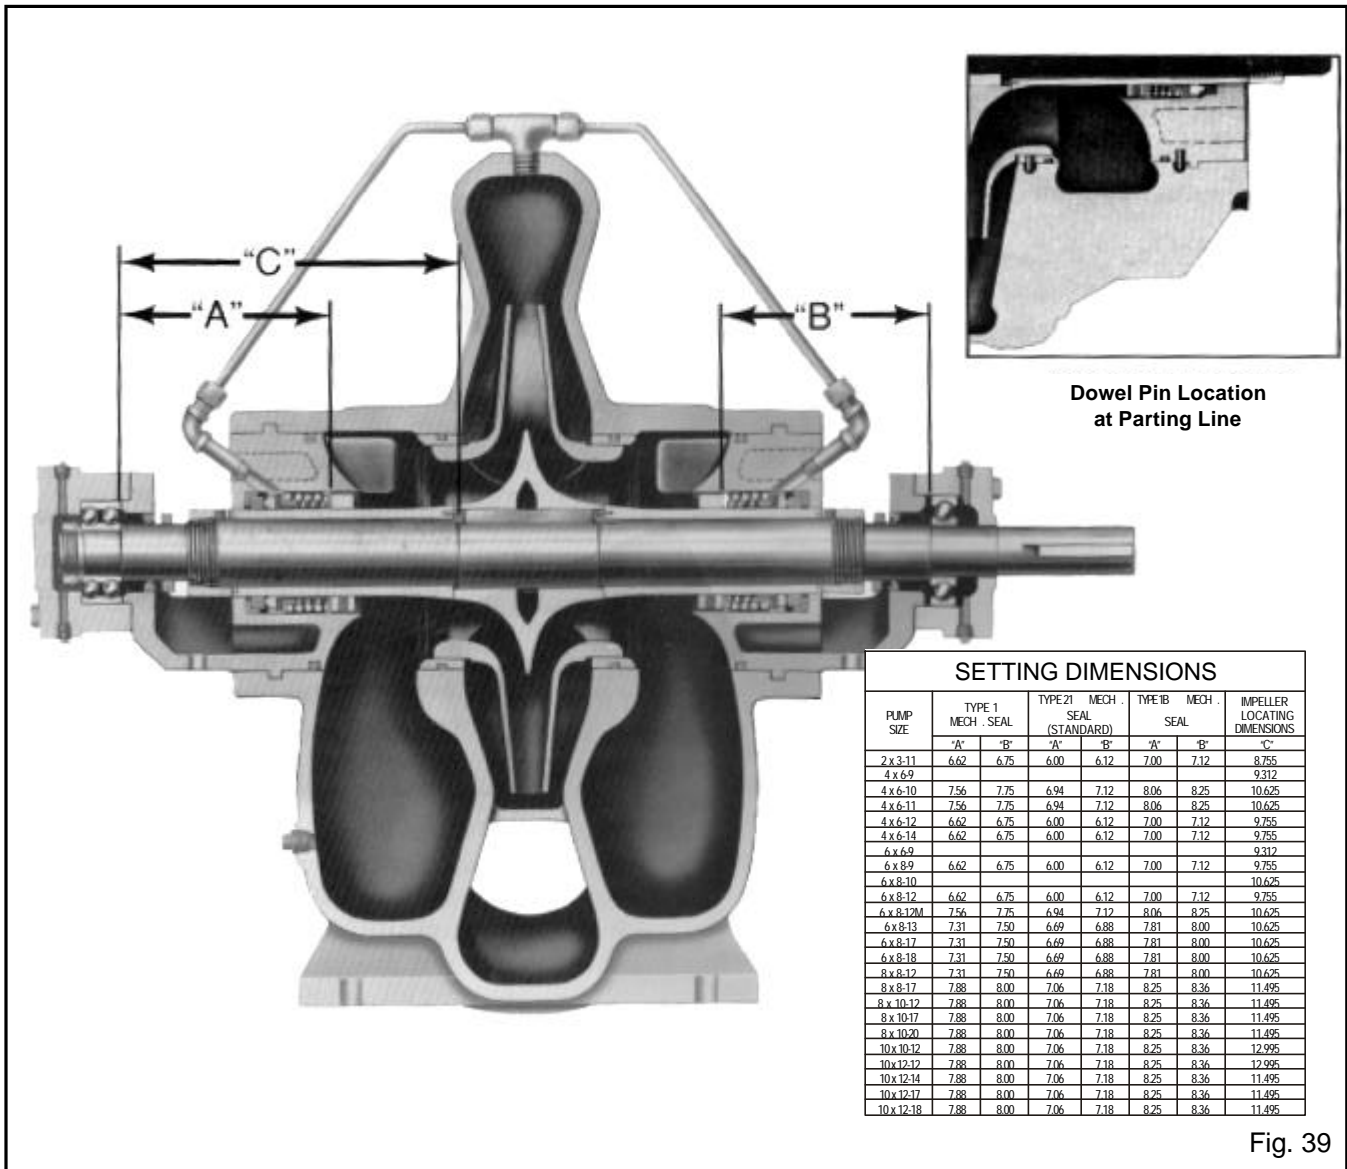

Fig. 39
1. Assemble the impeller key (3-911-1) in the shaft key slot.
2. Check the impeller (4-002-0) and casing to determine the correct relationship (See Fig. 16) and locate the impeller on the shaft per dimension "C" given in the table on Fig. 39.
13. Obtain the set collar (3-421-9) locating dimension from the table on Fig. 39 and scribe the dimension on the shaft sleeve. Install set collar on sleeve per this dimension. (Reference dimensions "A" and "B" on Fig. 39.)